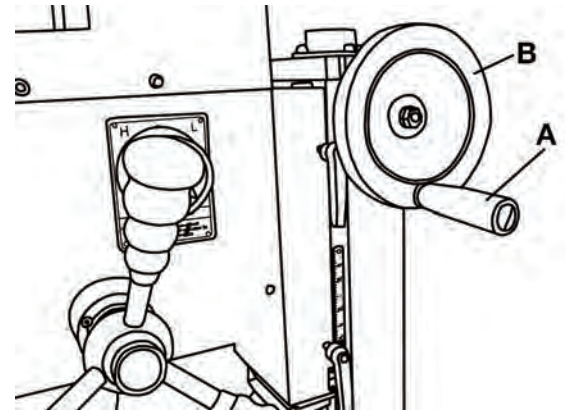

FIGURE 3
- 1) Install the large handwheel handle (A) Fig.3 onto the elevation handwheel (B) using a flat head screwdriver.